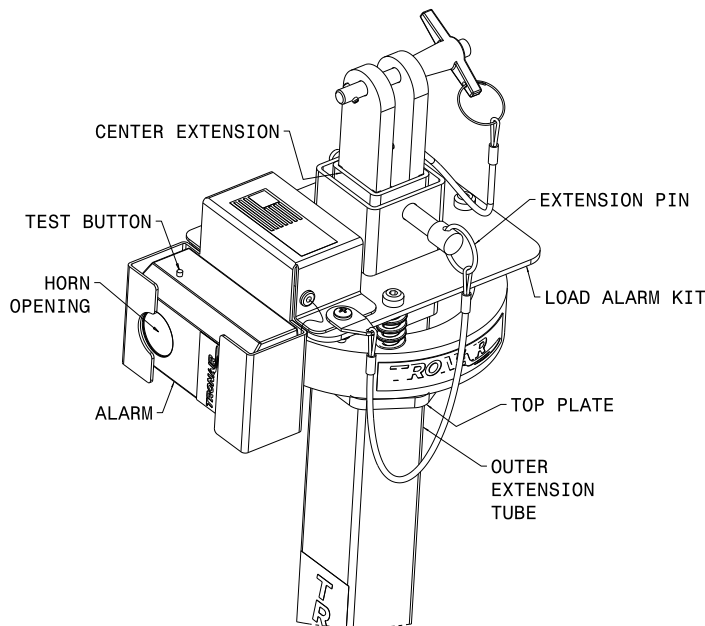

Figure 1
1. Assemble the load alarm kit over the outer extension tube. The base of the load alarm kit will rest on the stabilizing stand's top plate. (see Figure 1)
2. Assemble the center extension through the center of the load alarm kit. Pin the center extension to the desired height with the extension pin (see figure 1)
1. Depress test button on alarm to test battery is installation. (see Figure 1)